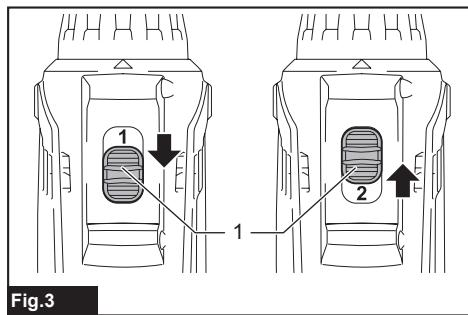

Fig.3
► Fig.3: 1. Speed change lever